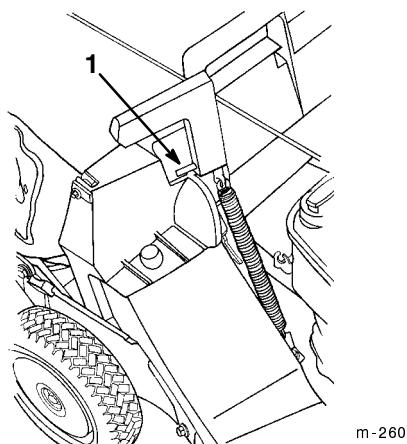

Figure 16
5. Pull the discharge door handle forward until the pin clears the catch, and move the handle rearward until the pin locks in the bag notch (Fig. 16).